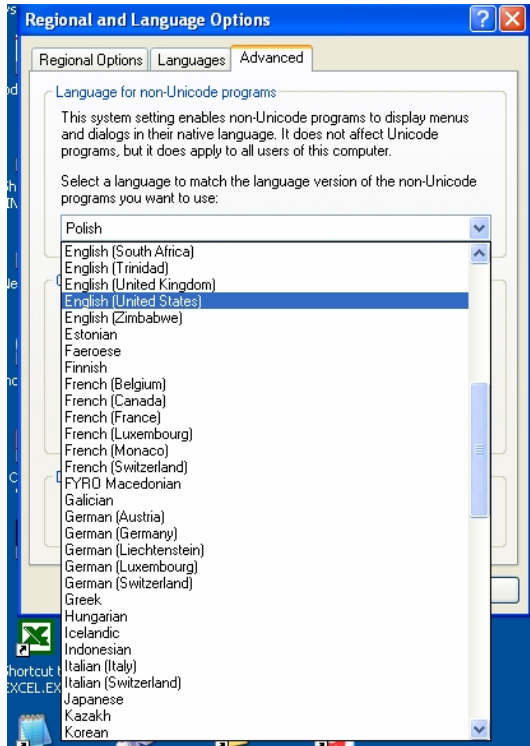

Figure 53: “Language for non-Unicode Programs” selection
Step 5: In the “Language for non-Unicode Programs” section click on the drop-down menu arrow and select “English (United States)” as shown in Figure 53. If your computer is already configured for “English (United States)” as the “Language for non-Unicode Programs” skip to Step 7.